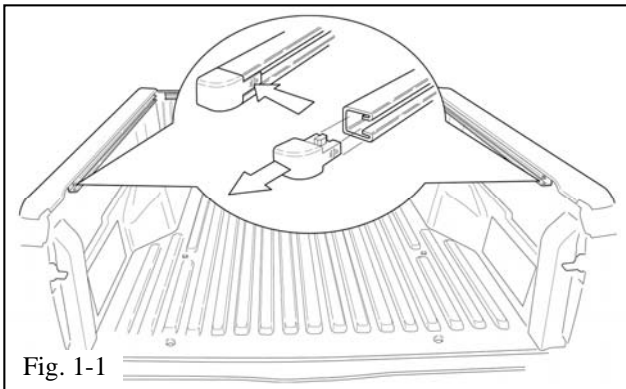

Fig. 1-1
- (a) Remove the end caps from the back of each vehicle bed side rail (Fig. 1-1).